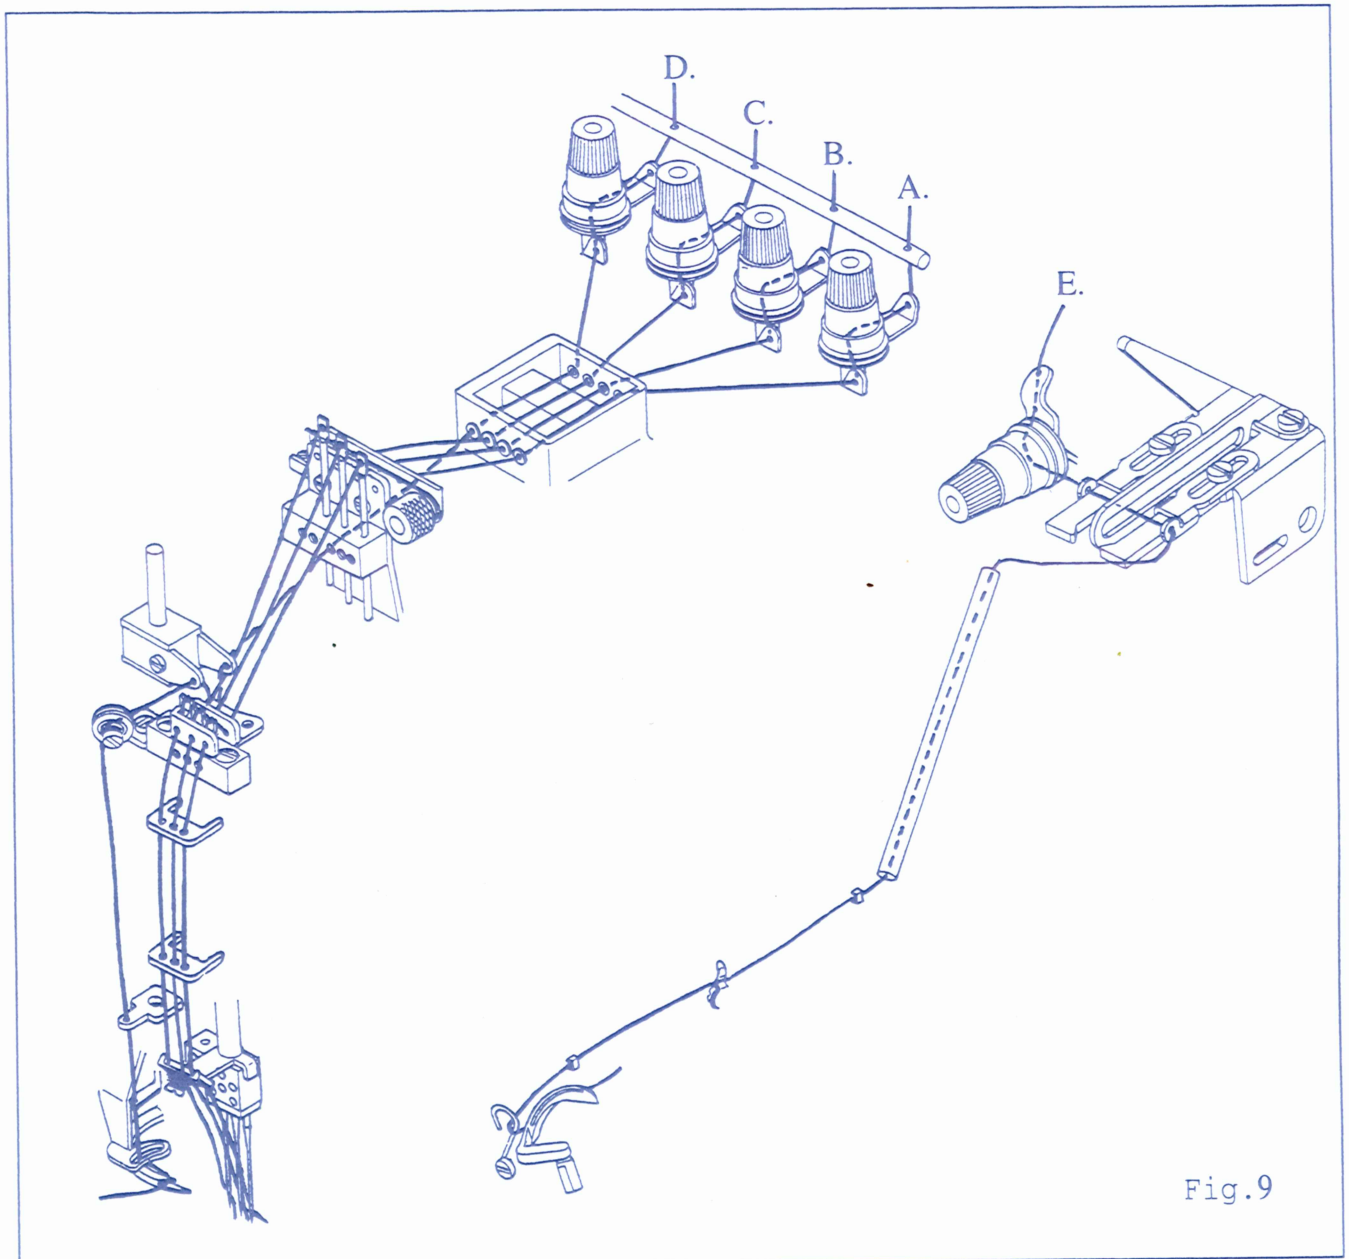

Fig.9
1. Threading should be made correctly. Referring to the illustration. (Fig 9)
3. The threading for three needles machine is shown in the illustration below. For two needles machine, threading is the same except two needles threaded. (Fig 9)